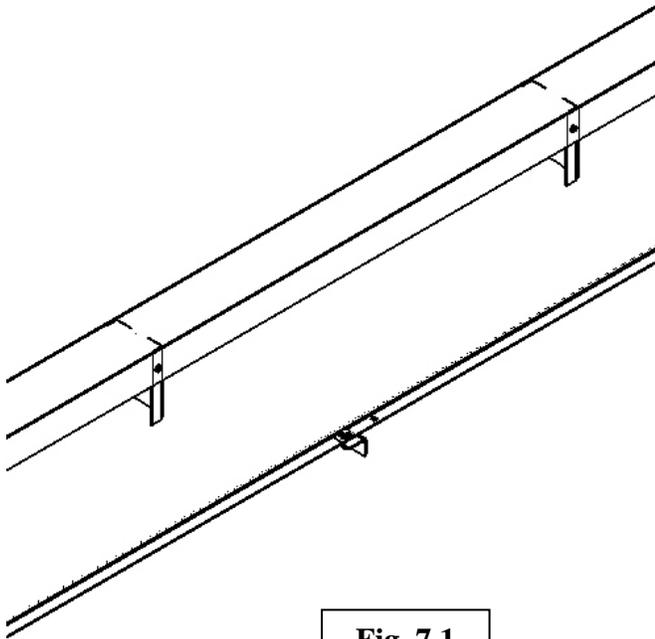
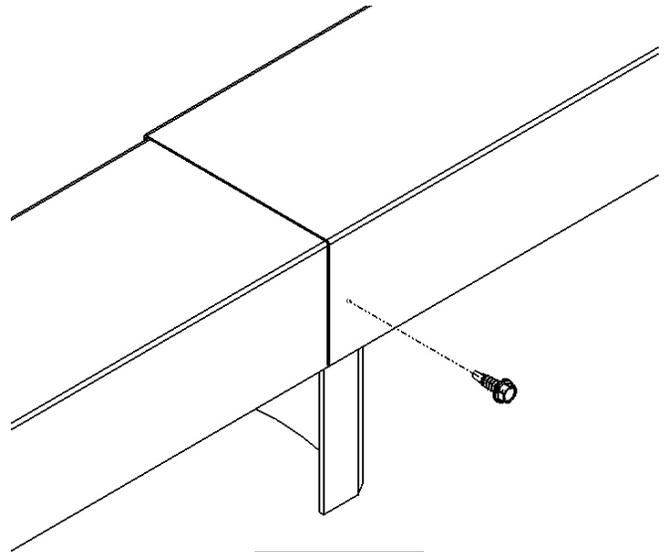

Fig. 7.1
Fig. 7.2
Next, the top drive galvanized guards need to be assembled onto the discharge tube. Place the guards over the top drive brackets as shown in fig. 7.1. Overlap the lower guard (T1332 has only the top guard, T1342 has two guards) with the top guard as shown in fig. 7.2. Attach the 2 guards using a total of (14) #12 x 3/4" long self tapping screws. (See fig. 7.2)
Place the axle underneath the auger tubes on the stands. Attach the carriage and hub assembly to the axle using (4) 1/2" x 1-1/2" hex flange bolts and flange nuts. (See fig. 7.1) Do this same step on the other side of the axle.